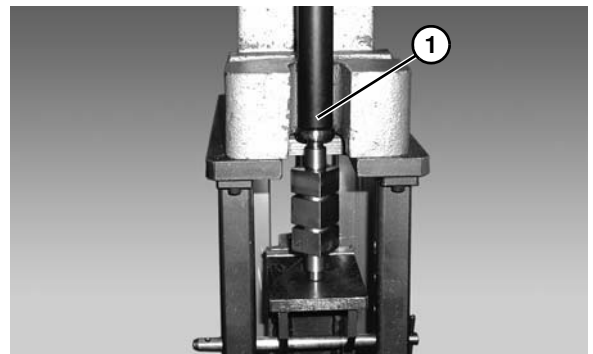

Figure 73
4. Press new bearing onto drive pulley using installation tool 450293 (**Figure 73, item 1**).